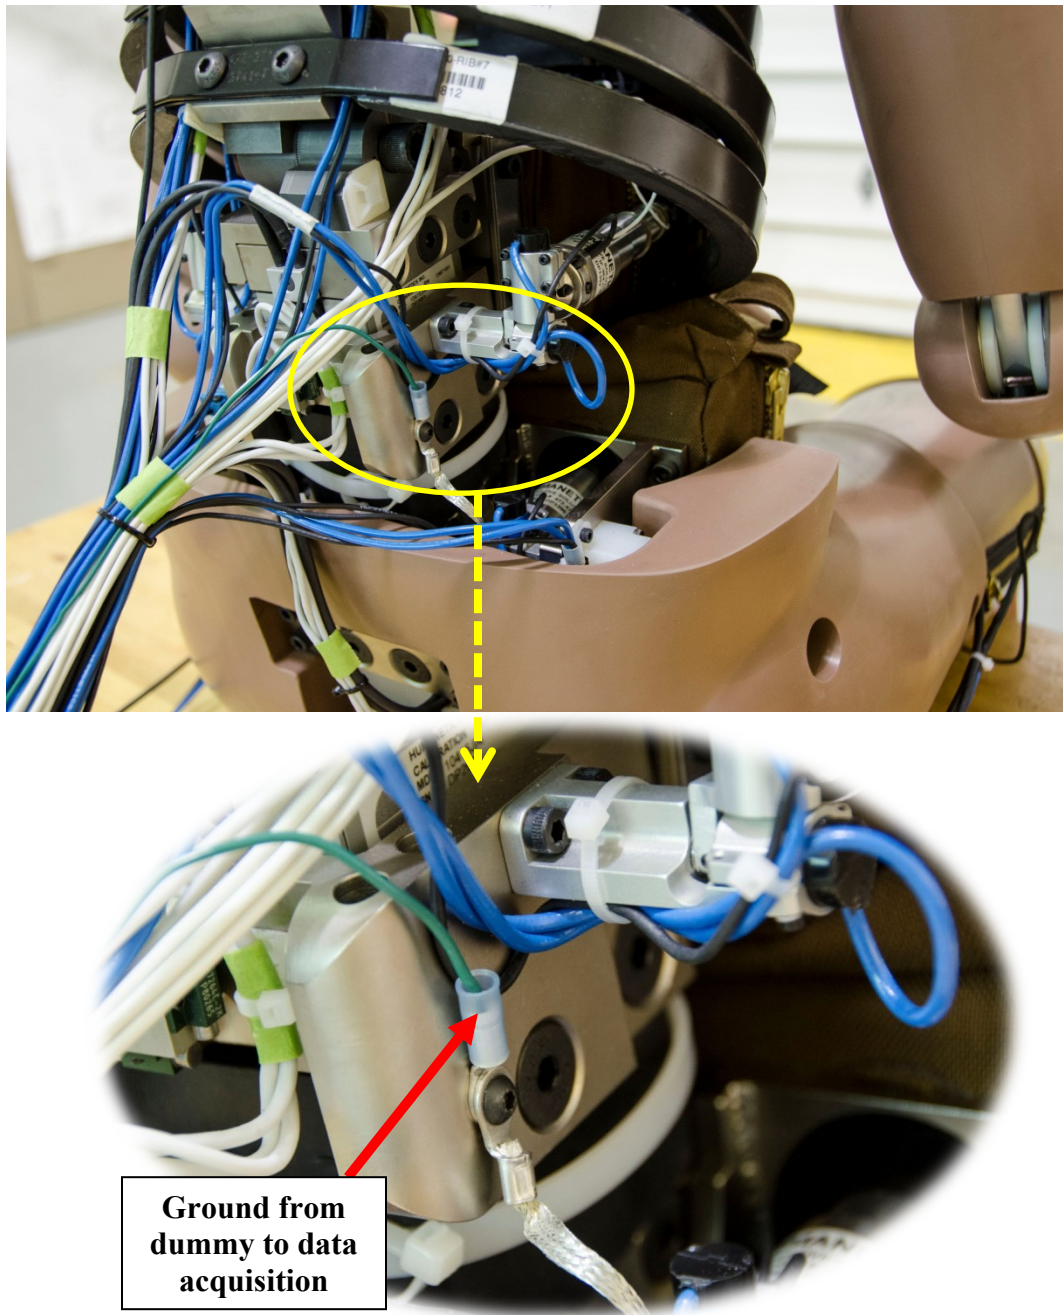
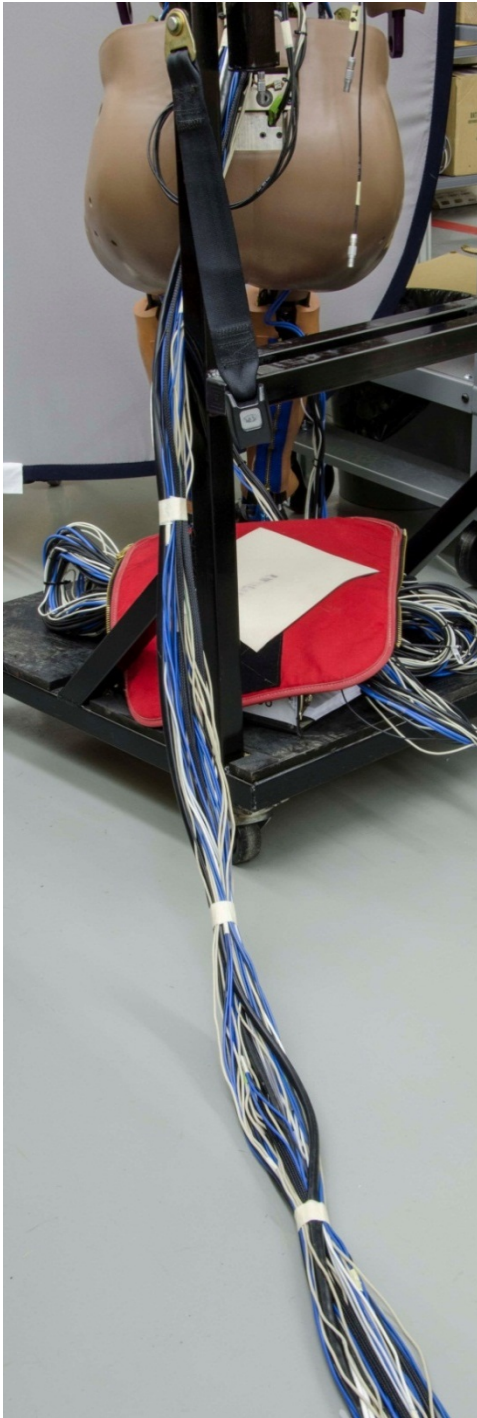

Figure 15-10. Primary grounding cable from dummy to data acquisition system
Figure 15-35. Final bundling of the “umbilical” cable
A primary grounding cable which extends from the lumbar spine to the data acquisition system provides a path from the dummy to ground (Figure 15-10). Bundle this wire with the dummy umbilical (Figure 15-35).
15.4.4.3 Additional masking tape and/or tie-wraps should be used along the cable bundle to hold the wiring in the “umbilical” cable together (Figure 15-35).